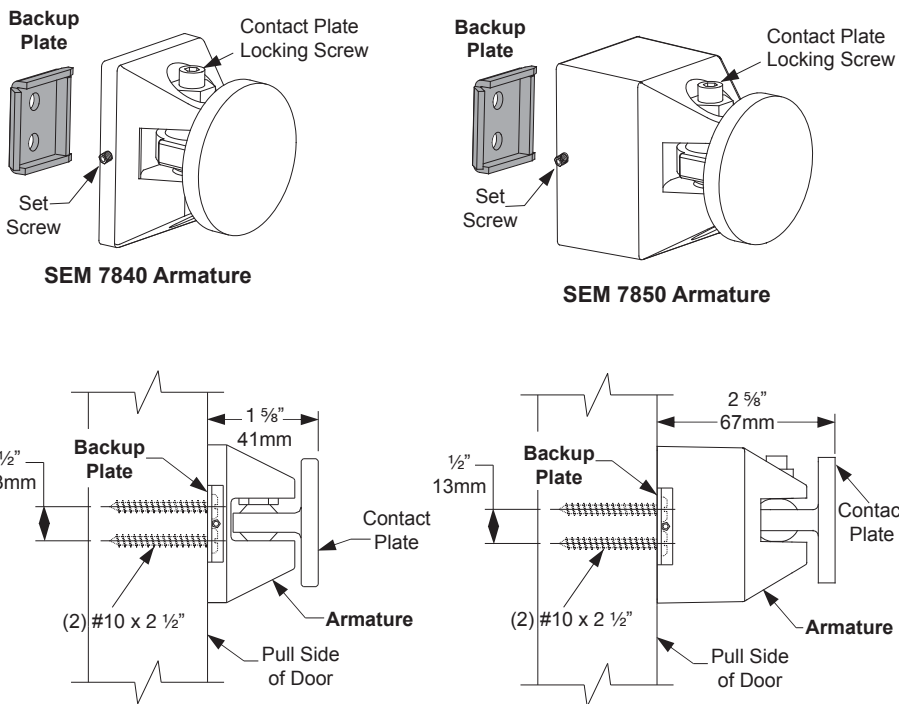

Figure 5
- 3d See Fig. 5 and 6. Determine if the armature will be mounted using the wood screw kit or the thru bolt kit. The thru bolt kit is recommended for 1 3/4" hollow metal, hollow core, or composite-type wood doors. If using the wood screw kit, drill the center two holes on the template using a 1/8" bit by 1 1/4" deep. If using the thru bolt kit, drill the outer two holes on the template using a 5/16" bit all the way through the door. Remove the template after the holes are drilled.